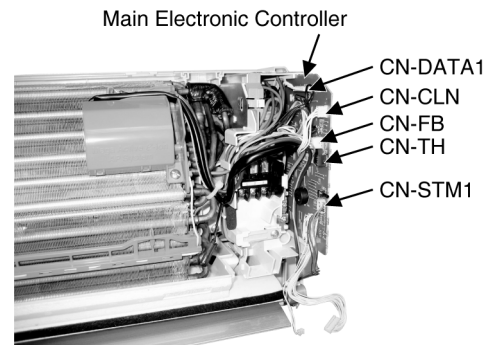

Fig. 5
- Release the CN-DATA1. (Fig. 5)
- Release the CN-CLN. (Fig.5)
- Release the CN-FB (for S12GK only). (Fig.5)
- Release the CN-TH. (Fig.5)
- Release the CN-STM1. (Fig.5)